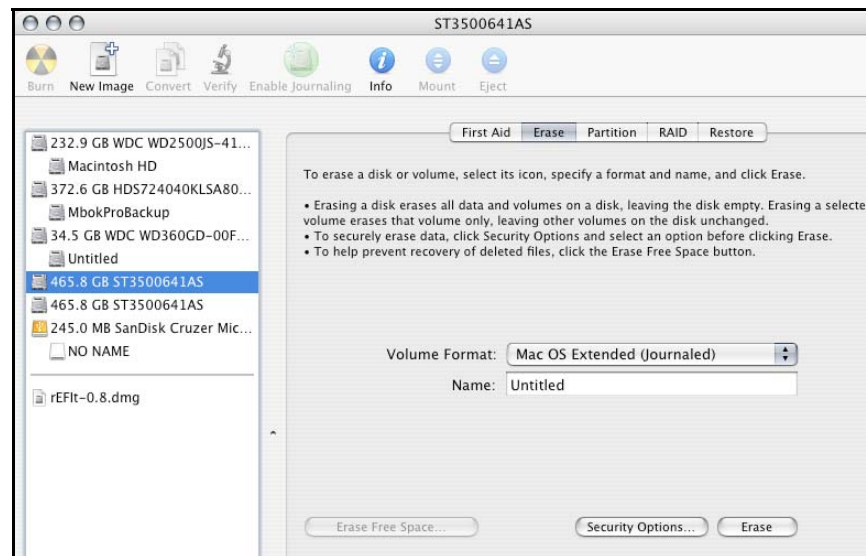

Figure 10: Selecting the *Erase* tab in Apple's *Disk Utility*
3. After carefully selecting the hard drive you wish to format, select the *Erase* tab in Apple's *Disk Utility* (see Figure 10).